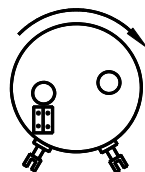

Fig.5
- Jumper placed "vertically" for clockwise direction. (fig. 5)